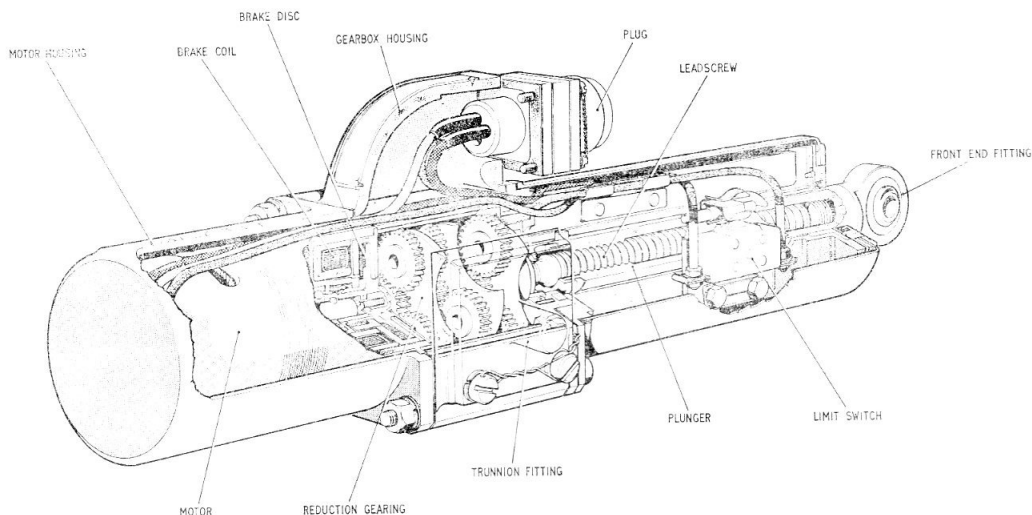

Fig. 1. Cutaway view of actuator, Type 1CZ 135261
1. Plessey linear actuator, Type 1CZ135261, is a Cub Puma model in the series described in the main chapter. Types 1CZ135261/A and 1CZ135261/B are variants of the basic Type 1CZ135261. The three types are similar in construction and operation; the only difference between them is in the length of their working strokes, details of which are given in the Leading Particulars. Fig. 1 shows a cutaway view of the basic type. Actuator 1CZ135261/A is easily identified by the engraving VAL STI 5 on the motor housing, no lettering being engraved on the housings of the other two types.